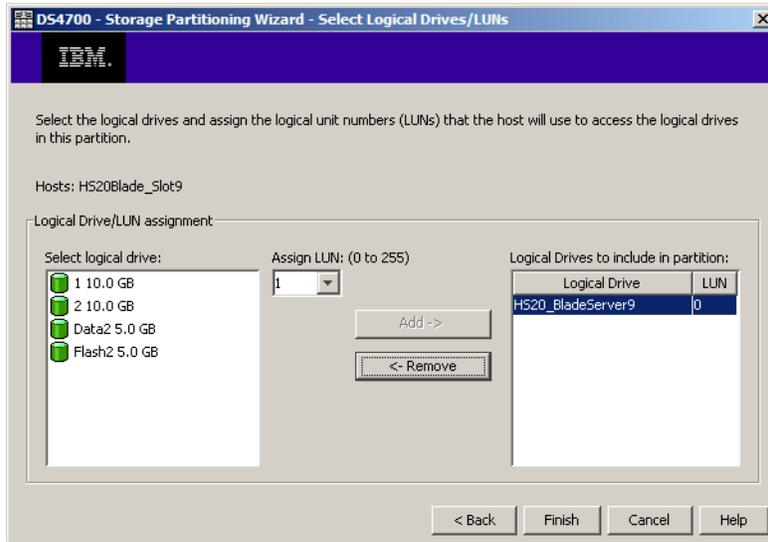

Figure 10-26 Select the access LUN
- c. Select and add the appropriate logical drive with LUN ID 0, as shown in Figure 10-26 on page 586.